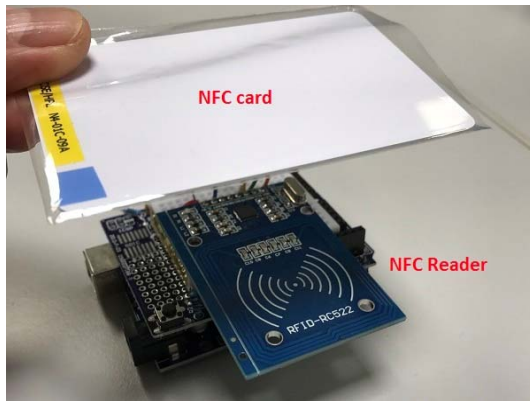

Figure 10a Illustration for Step 5.2.6.
- 5.2.6 Now lift the NFC card (or tag) to about 20cm above the reader and slowly move it closer to the reader until the monitor displays the ID and the type. See Figure 10a.